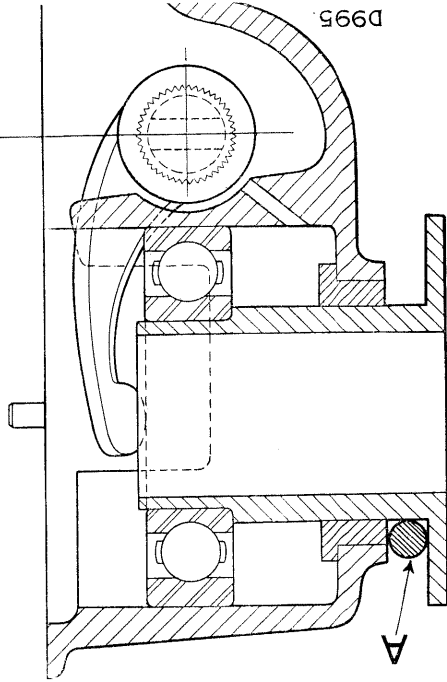

Fig. B-7—Setting withdrawal shaft
3. Place a $\frac{1}{16}$ in. (1.1 mm) round-section bar between the withdrawal sleeve and the housing. See Fig. B-7.
5. Ensure the withdrawal fork is in contact with the bearing, and the $\frac{1}{16}$ in. (1.1 mm) round-section bar is still trapped between the withdrawal sleeve and housing, then insert the cross-shaft, with linkage connecting drilling in the horizontal position. See Fig. B-7.